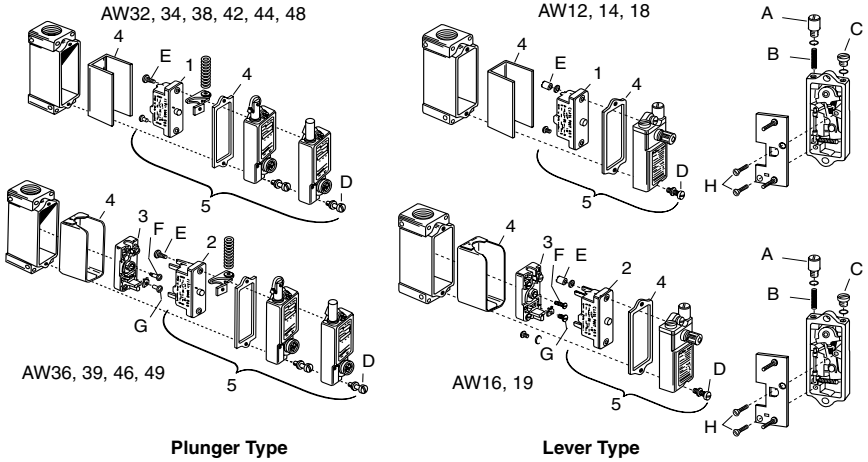

Figure 3: Class 9007 Type AW Limit Switches
When ordering replacement parts, specify quantity, Class, and Type number. See Figure 3 on page 5.
^[1] Not shown in Figure 3 on page 5.
The Class 9007 Type AO or Type CO snap switch (items 1 and 2 in Figure 3 on page 5) serves as the contact mechanism. Replace it as a complete unit.